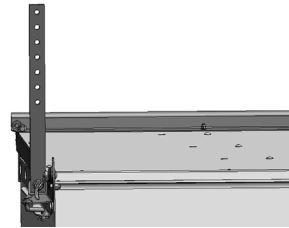

Figure 2
2) **Forming Shield Rear Height Adjustment.** See Figure 2